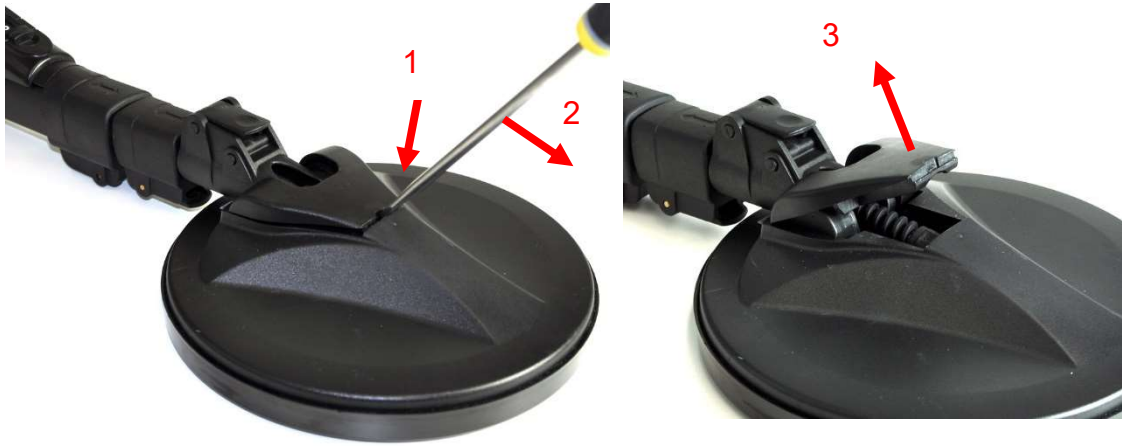

Figure 26: Removing the Coil Retainer
- Maintaining firm downward pressure on the 6.5mm screwdriver, carefully lever the coil retainer cover off the coil top and remove it, as shown in Figure 26.